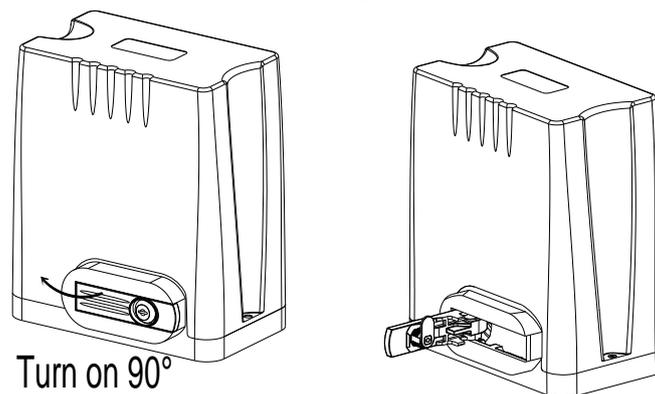

Figure 5
- Please unlock the gate opener before installation by the following steps: remove the keyhole cover, insert the key, and pull out the release bar at 90° as shown in Figure 5. Then turn the output gear and make sure the gear can be rotated smoothly;